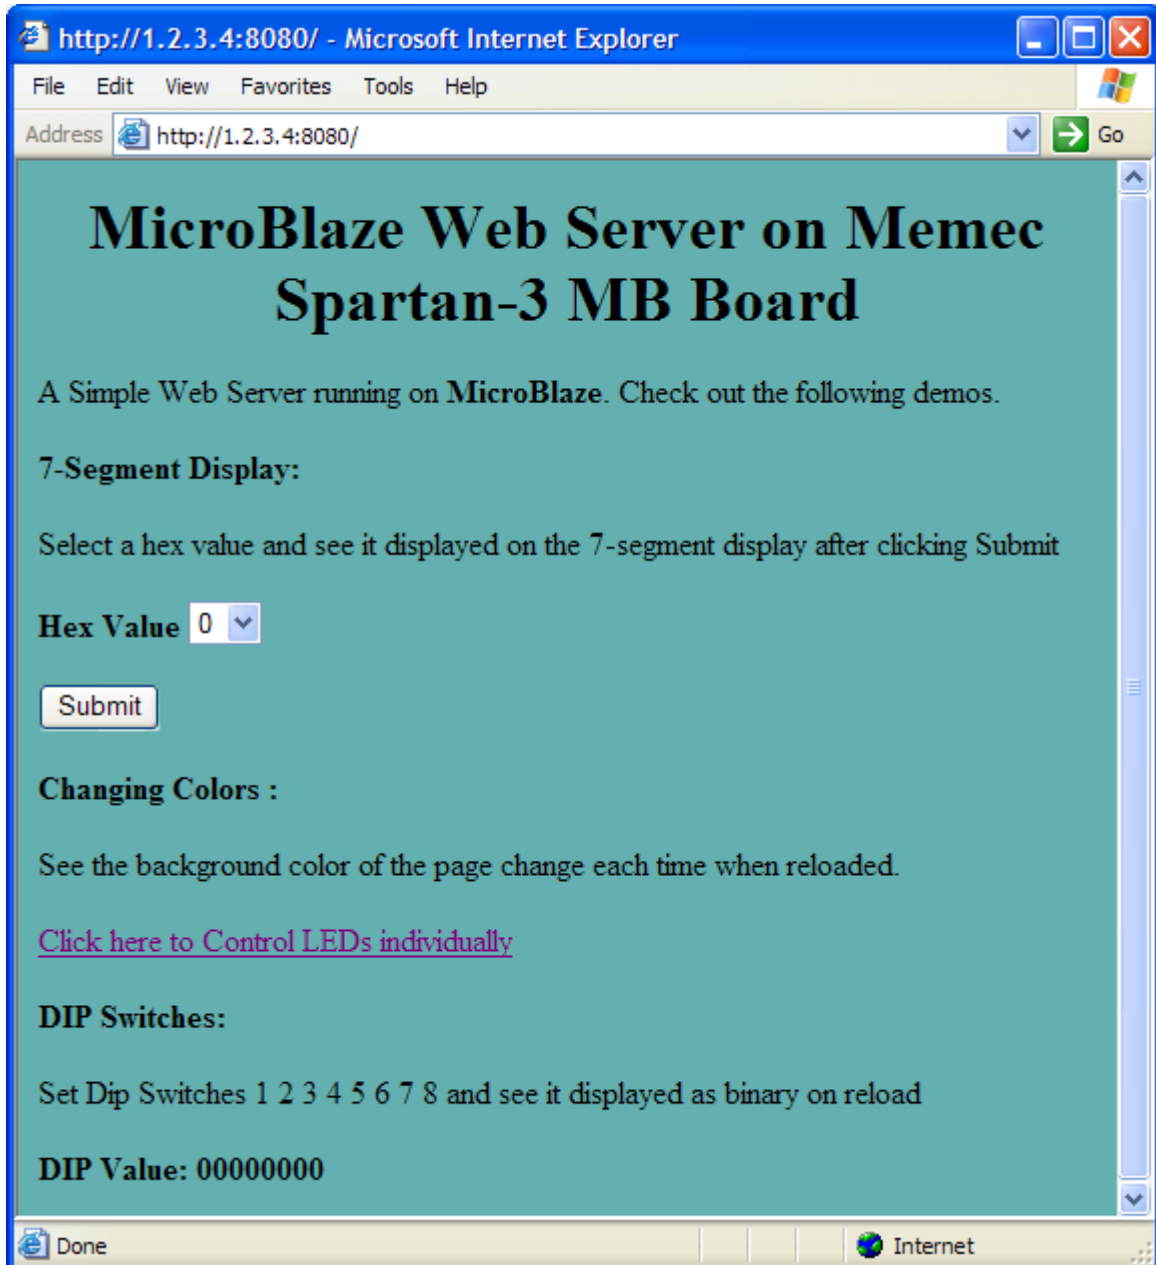

Figure 21 – Ethernet Test: 3SMB WebServer
26. As instructed by the HyperTerminal display, browse to <http://1.2.3.4:8080> . A passing ethernet test will display as shown in Figure 21.